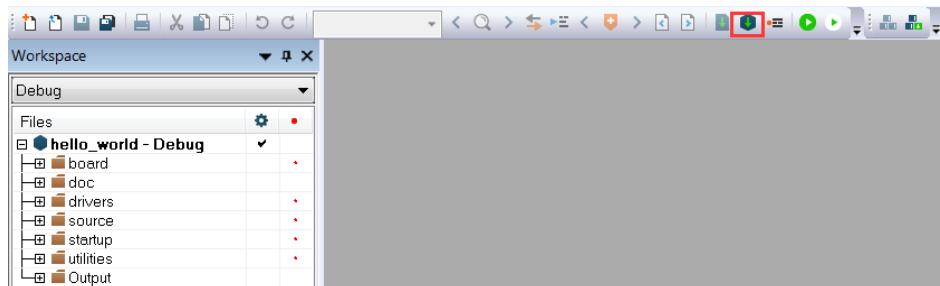

Figure 40. Build the demo application
3. To build the demo application, click **Make**, highlighted in red, as shown in Figure 40.